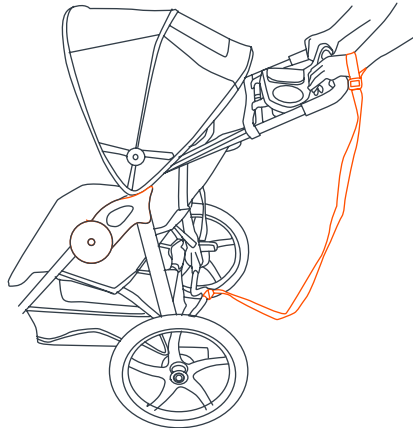

Fig. 16a
- **SAFETY WRIST STRAP:** Always connect the safety strap to either wrist when jogging. This strap will keep the stroller from rolling away in the event that you trip while running (Fig. 16a).